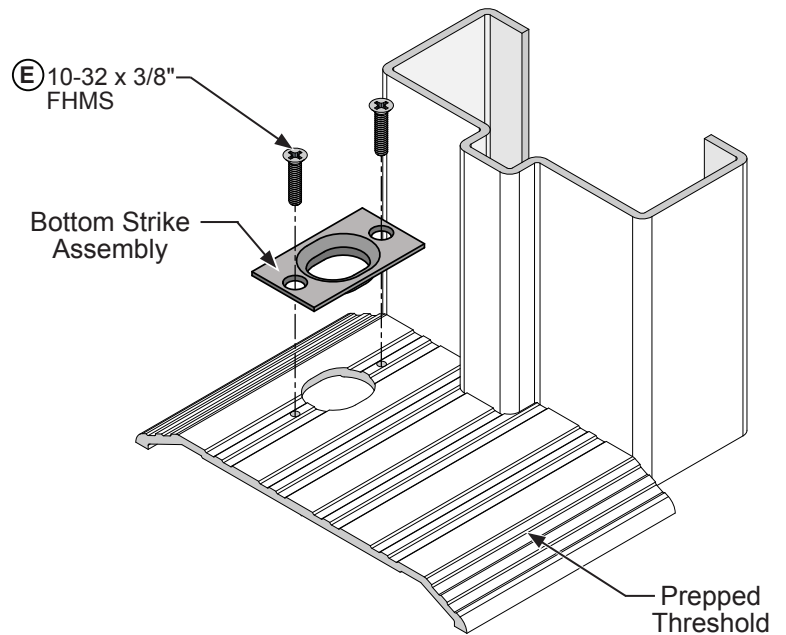

FIG. 18
Cut out a 1" long x 13/16" wide hole and Drill and tap for (E) (2) 10-32 x 3/8" FHMS on the mark made in step 2 of the frame preparation on page 15. Attach the bottom strike centering on the mark. (Fig. 18)